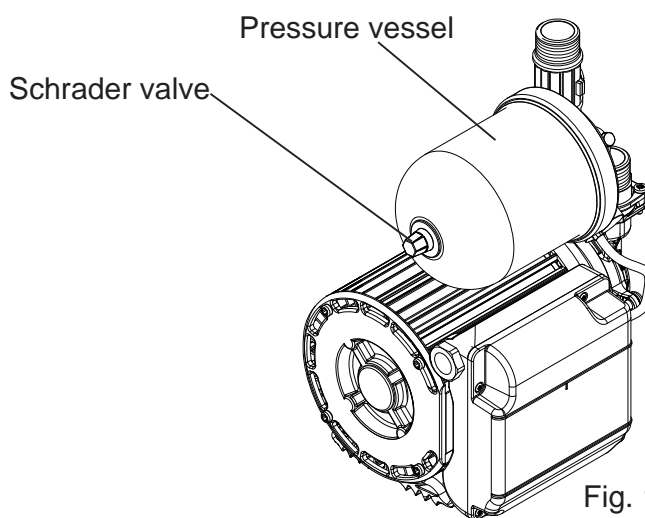

Fig. 16
- Check air charge at Schrader valve (Fig. 16) using a tyre pressure gauge.